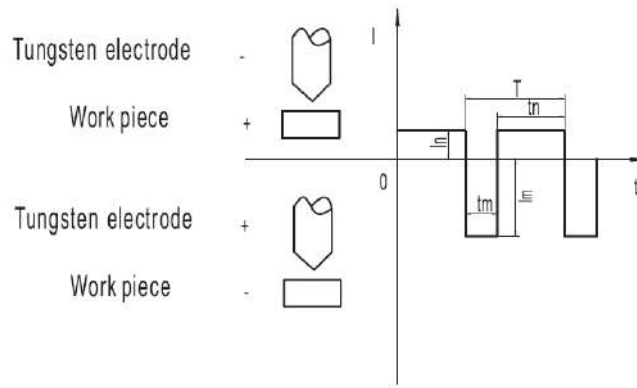

Fig. 4-3-10: Waveform and parameter in AC constant current
• Waveform and parameter in AC constant current (Fig. 4-3-10)